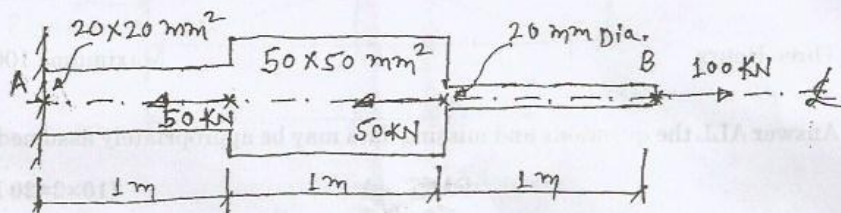

Fig. 1
- b) A compound bar with loading is shown in Fig. 1 What is the relative position of point B with respect to point A? Take the Young's modulus of elasticity of the bar as 210 GPa. (13)